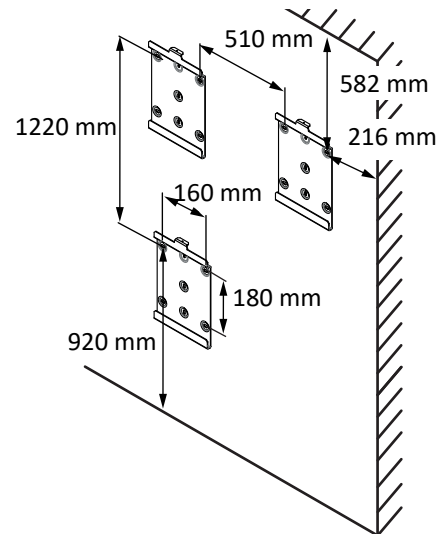

Fig. 13: Wall mounting
- Minimum clearances to be observed during installation: [See figure 13 [▶ Page 18]